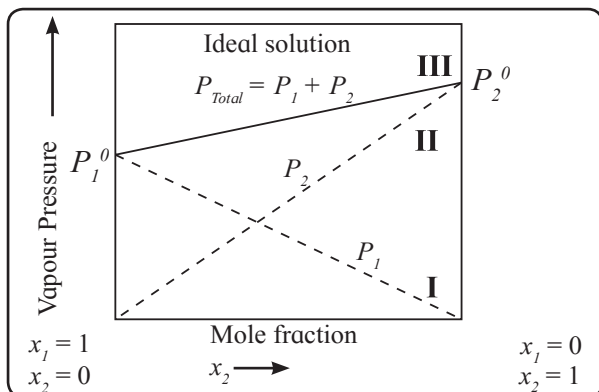

Fig. 2.2 : Variation of vapour pressure with mole fraction of solute
Because P₁⁰ and P₂⁰ are constants, a plot of P versus x₂ is a straight line as shown in the Fig 2.2. The figure also shows the plots of P₁ versus x₁ and P₂ versus x₂ according to the equations 2.2. These are straight lines passing through origin.
v. The vapour pressure of ideal solution always lies between vapour pressures of pure components, as shown in Fig. 2.2.